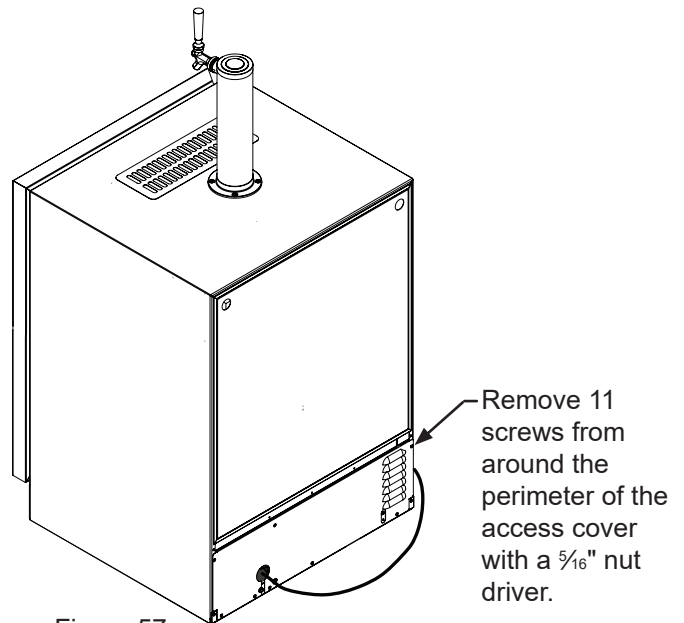

Figure 57
14. Remove the rear access cover, (see Figure 57), and use a brush and vacuum to clean dirt and debris from the machine compartment.